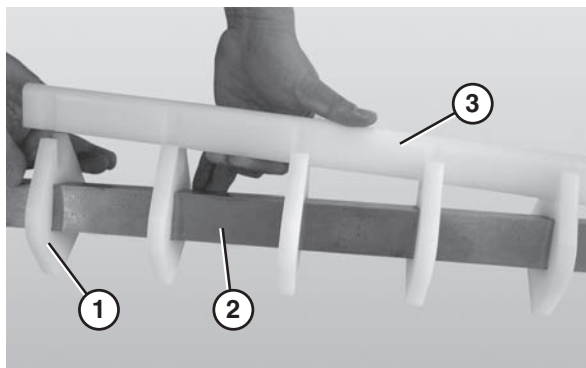

Figure 78
1. Slide the nose bar pucks (Figure 78, item 1) onto the nose bar drive post (Figure 78, item 2).
2. Attach the nose bar wear strip (Figure 78, item 3).